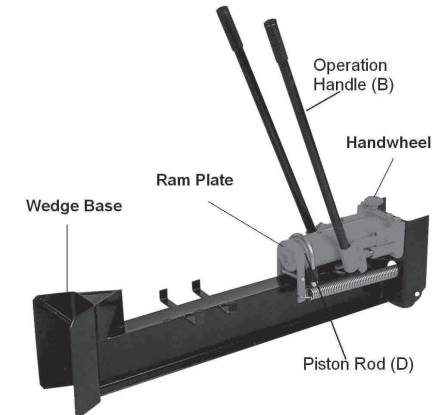

Fig. 2
1. Grip one Handle in each hand and pump the Handles in a back-and-forth stroke motion. See Fig. 2.
4. Turn the Handle (B) counterclockwise no more than one full turn to retrieve the Ram (see Figure 2).